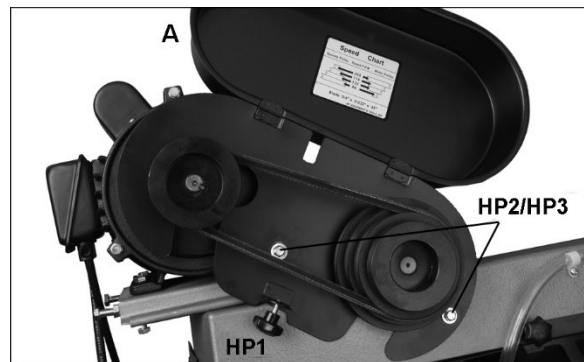

Figure 6-8: installing pulley cover
6. Slide pulley cover (A, Figure 6-8) over spindles and secure with screws and washers (HP2/HP3), using 10mm wrench.